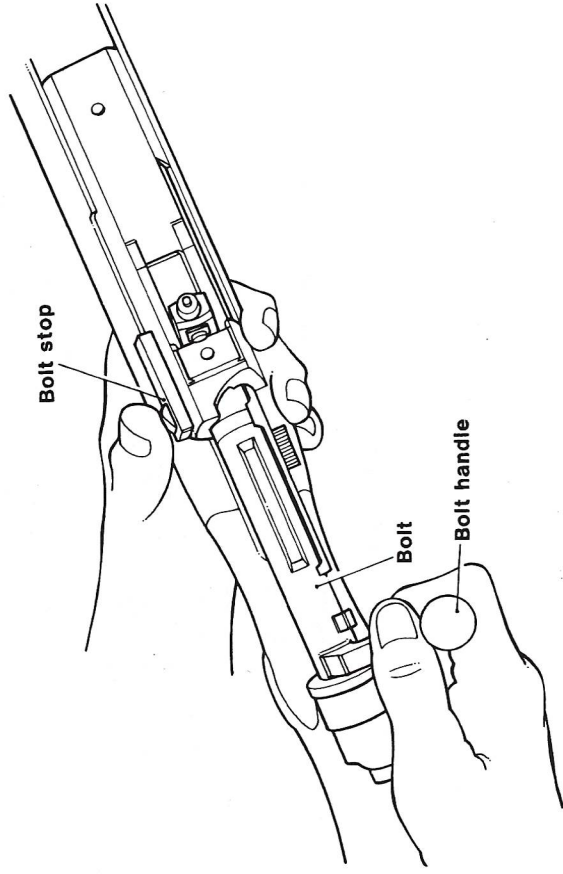

FIG. 1. REMOVING THE BOLT
STRIPPING (Fig 1)
- 1.1 Raise the bolt handle and slide the bolt rearward while holding the bolt stop open with thumb (Fig. 1)